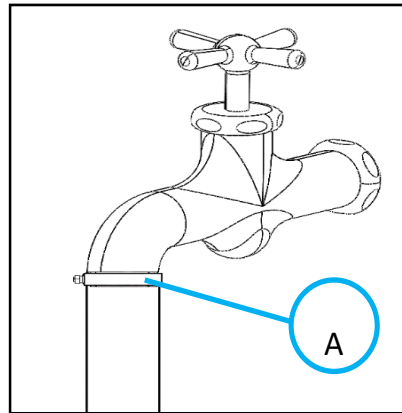

FIGURE 10-9
3. Attach a hose to a tap by pushing its rubber end onto the tap and tightening the hose clip **(A)** (Fig. 10-9)